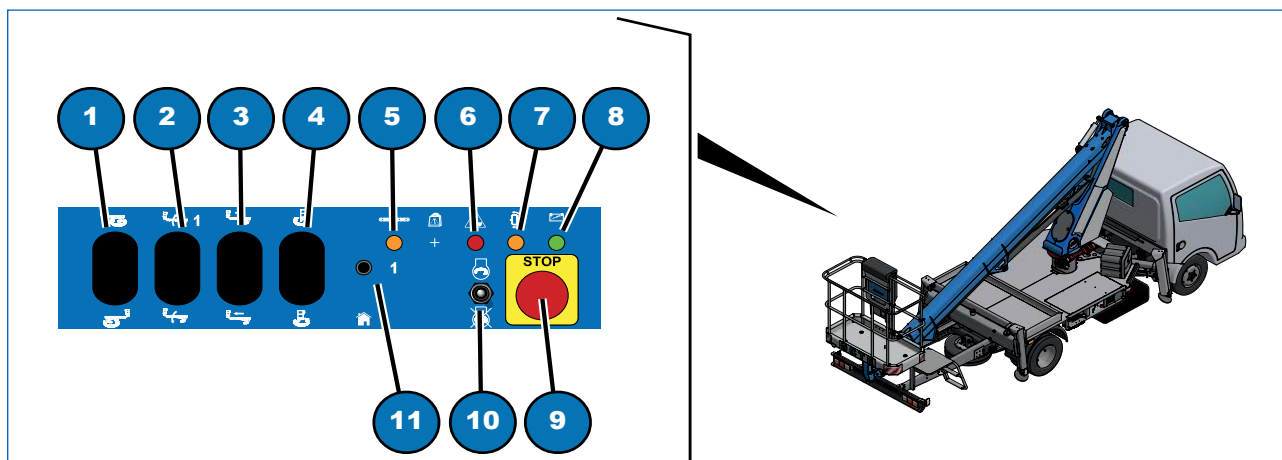

Fig. 6.4
- check that the power supply indicator LED on the work platform control board is on (Fig. 6.4, 9);
- Move the boom by keeping the selector switch control pressed (Fig. 6.4, 1, 2, 3, or 4) in the required position;
If you wish to switch off the engine once you have reached the work position, press the selector switch (Fig. 6.4, 10) downwards.
To restart, press the selector switch (Fig. 6.4, 10) upwards.